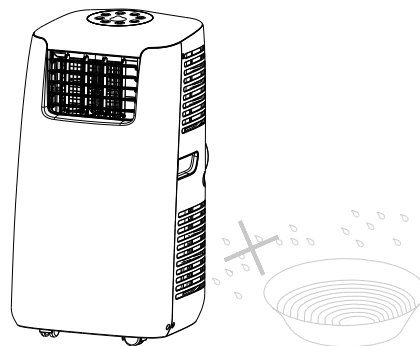

FIG.3
- Do not use in humid or wet environments (Fig 3)